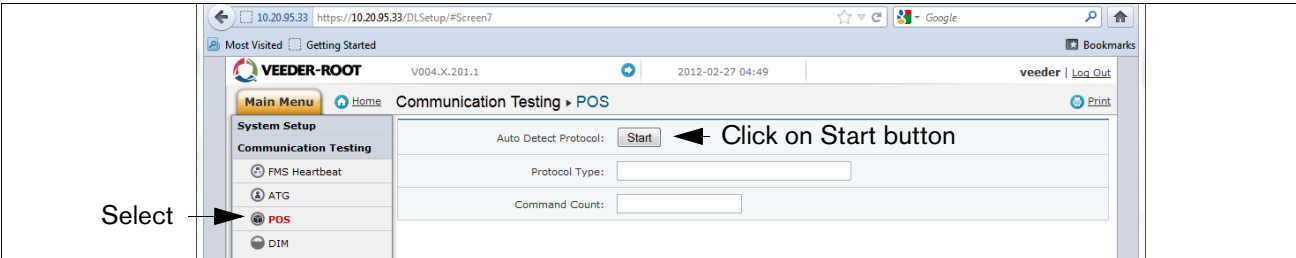

Figure 26. POS Protocol Type Query
21. If the DL is connected in the Pass-Thru mode (Scenario 2) and is accepting commands from the POS and passing them through to the ATG, click on "POS" to detect the POS protocol. Click the "START" button next to "Auto Detect Protocol" and wait for the Protocol Type to appear (see example in Figure 26).